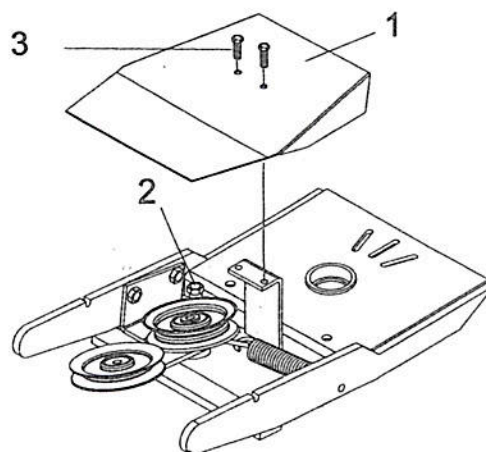

Figure 17
- a) Remove the belt guard from the broom's push frame (fig. 17, item 1).
- b) Remove the 1/4" bolt used as a belt guide (fig. 17, item 2).
- d) Re-install the 1/4" bolt used as a belt guide (fig. 17, item 2).
- e) Install the belt guard supplied with the kit (fig. 17, item 1) by using the 1/4" bolts and flange nuts already in place.